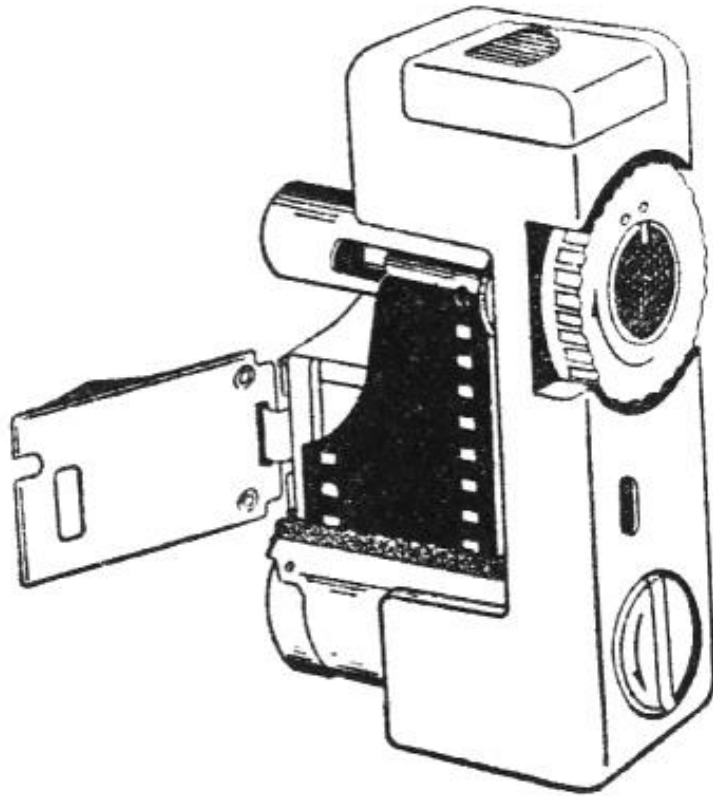

Figure 7
5.1.3. Open the foldable film pressure plate (19), put the film cassette in place. Then pull the film leader into the slot in the take-up spool (16) so that it protrudes from the other side of the spool. Make sure that the film is straight in its path, and the film perforations go over both the winding gear's (15), and the take-up spool teeth (fig. 7).